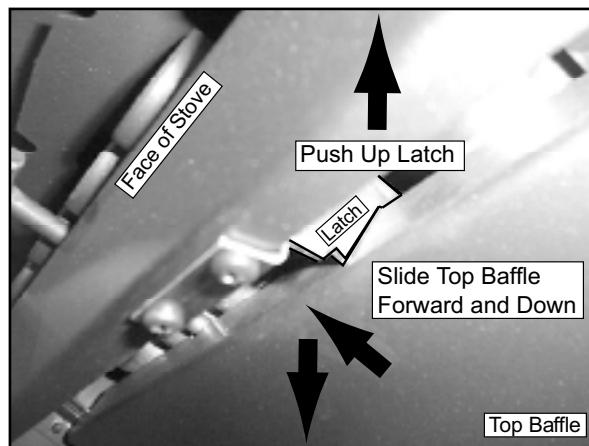

Figure 33.2
- c. Push the latch up with your finger while sliding the top baffle forward and down. **Figure 33.2.**